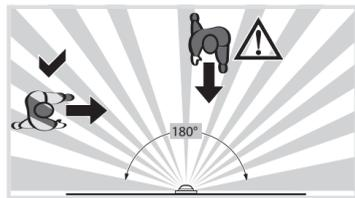

Figure 6: Motion orientation and detection
- Observe the motion orientation: a distinction is made between „direct approach“ and „transverse motion“. Motions transverse to the motion detector can be detected better than motions toward the motion detector (Fig. 6).